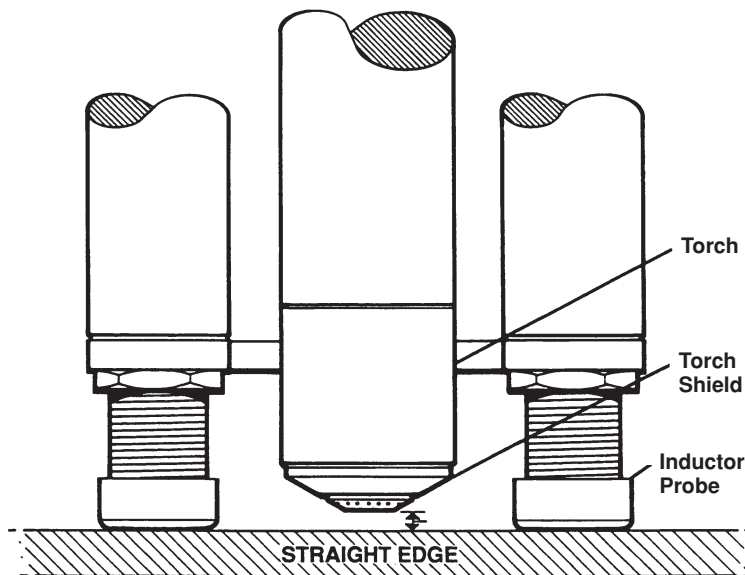

Figure 3-19 Torch Standoff Adjustment Setup
3. Adjust the position of the torch in the mounting bracket by loosening the securing bolt and positioning the torch so that the torch shield is within 1/16 to 1/8 inch of the extended probe plastic caps. Use a straight edge to determine this (see Figure 3-19). Secure the torch in the mounting bracket by tightening the securing bolt.